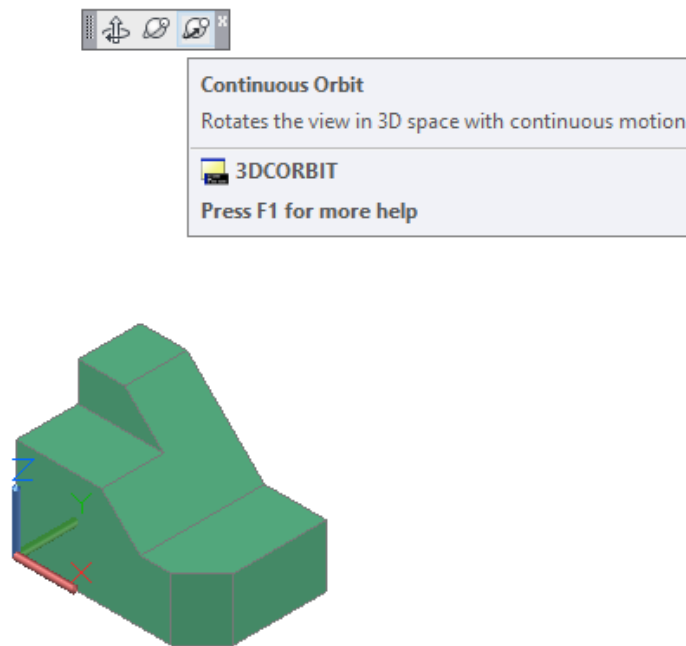

Figure Step 18
Step 18 Click the Continuous Orbit icon and use it to orbit the model. Read the Author's Comments. (Figure Step 18)